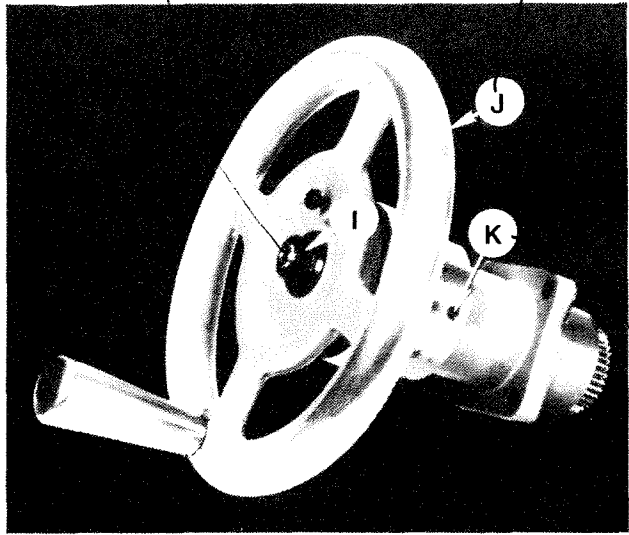

Figure 1.33 - Carriage Handwheel
2. Remove nut "I" and washer, Figure 1.33.
4. Remount handwheel "J", Figure 1.33.